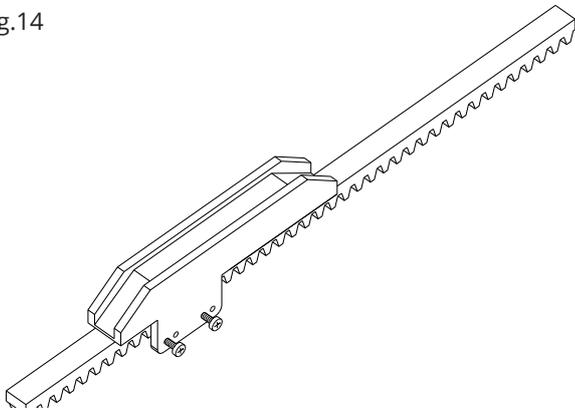

Fig.15
**BIG25QI:** Make a 1/2 or a whole turn at a time using the supplied wrench (fig. 15).